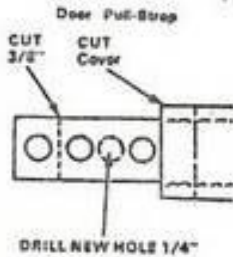

Figure 1
2. Pry out center insert of left end chrome cap. Remove door pull-strap. Cut off 3/8 inch from end of steel strap. Drill 1/4 inch hole. (See Figure 1). Bolt pull-strap back in place.